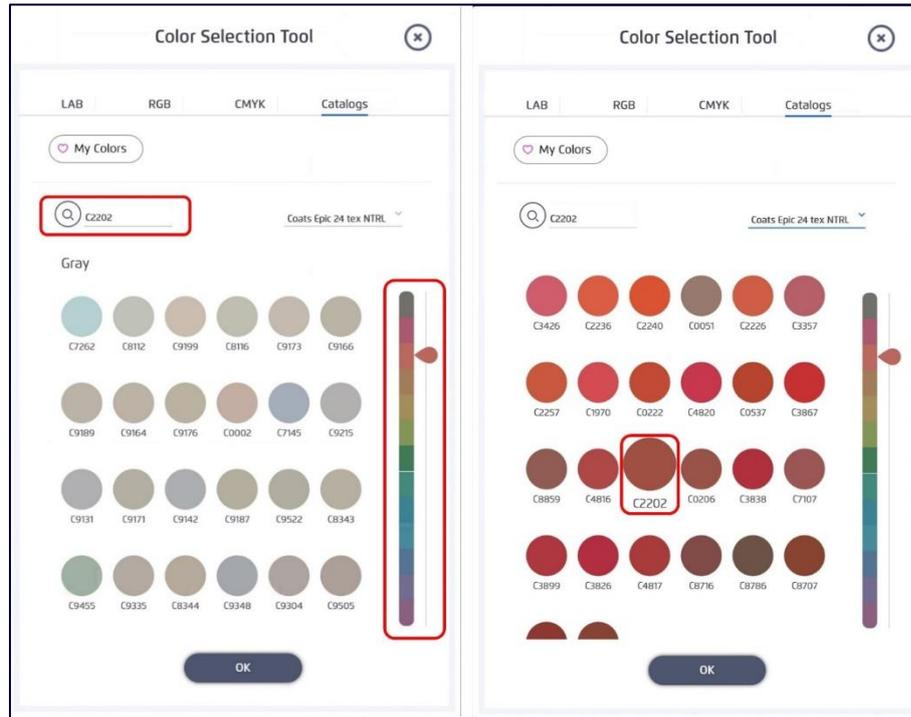

Figure 77: Color Search in Catalog
3. Move between color groups using the scroller and press on the desired color or use the search box to find a specific index and press next. The selected color will appear bigger (Figure 77).